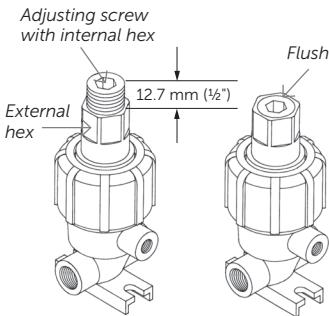

Figure 4
7. Make sure the diaphragm preload tool (T2) adjusting screw is out 12.7 mm (1/2") before placing the diaphragm preload tool (T2) onto the retainer nut (P12) and securing it in place with the outer cap (P9) (see Figure 4).
8. While holding the diaphragm preload tool (T2) external hex from turning with an adjustable wrench (S5), turn the internal hex on top of the diaphragm preload tool (T2) with the 3/8" allen wrench (S6) clockwise until it is flush with the top surface of the diaphragm preload tool (T2) (see Figure 4).